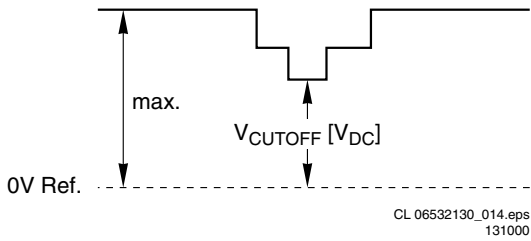

Figure 8-2 Waveform Vg2 alignment
19. Measure the cut off pulse during first full line after the frame blanking (see Fig. 8-2). You will see two pulses, one being the cut off pulse and the other being the white drive pulse. Choose the one with the lowest value; this is the cut off pulse.